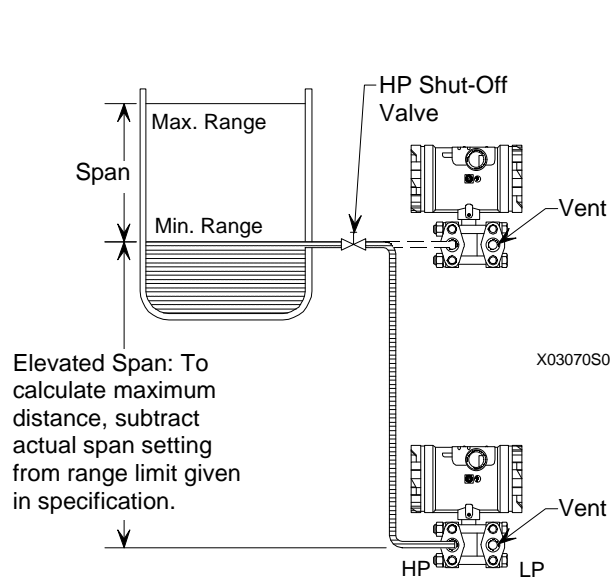

FIGURE D-1 Elevated Span Example
- Elevated Span - The Lower Range Value (LRV) of the transmitter needs to be configured above "0." See Figure D-1.